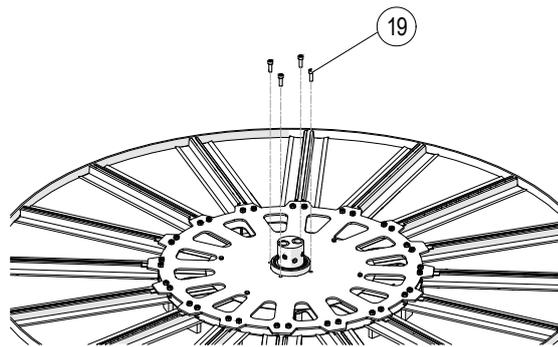

Fig. 7: Removing the 4 Cylindrical Screws
- Tighten the 4 central cylindrical screws (14 Nm) (see Fig. 7).